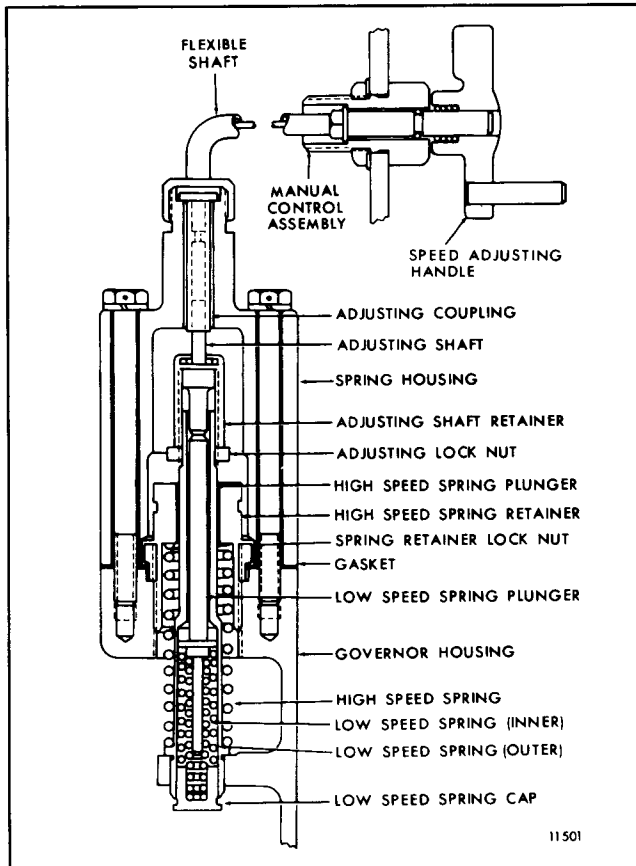

Fig. 1 - Cable Operated Governor Spring Housing and Components
10. Pack the needle bearings with grease, place a washer over each bearing and insert the control link lever between the two bosses in the housing (Fig. 1). Insert the control link lever shaft, then insert the shaft retainer in the notch of the shaft and fasten it to the housing with the retaining screw.
During highway operation, the governor functions as a limiting speed governor, controlling the engine idling speed and limiting the maximum operating speed. At the unloading area, the throttle is left in the idle speed position and the speed adjusting handle, on the cable operated governor (Fig. 1), is turned to the speed required within the above range to operate the auxiliary equipment. For the air operated governor (Fig. 3), the engine speed is changed to the speed required by increasing or decreasing the air supply pressure to the governor. The governor then functions as a variable speed governor, maintaining a constant speed when the load is constantly changing, during the unloading operation. Before resuming highway operations, the speed adjusting handle on the cable operated governor must be turned back to the stop, then turned ahead about one-quarter of a turn. The air operated governor's air supply pressure must be vented before resuming highway operations.
The variable low-speed limiting speed governor is similar to the limiting speed governor with the exception of the spring housing and its components. Therefore, disassemble the governor as outlined in Section 2.7.1 or 2.7.1.1, then disassemble the spring housing and its components (Fig. 1) as follows: